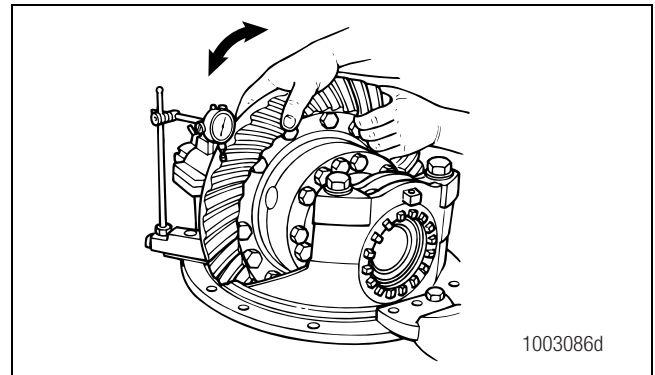

Figure 5.61
1. Attach a dial indicator onto the carrier mounting flange. Figure 5.61.